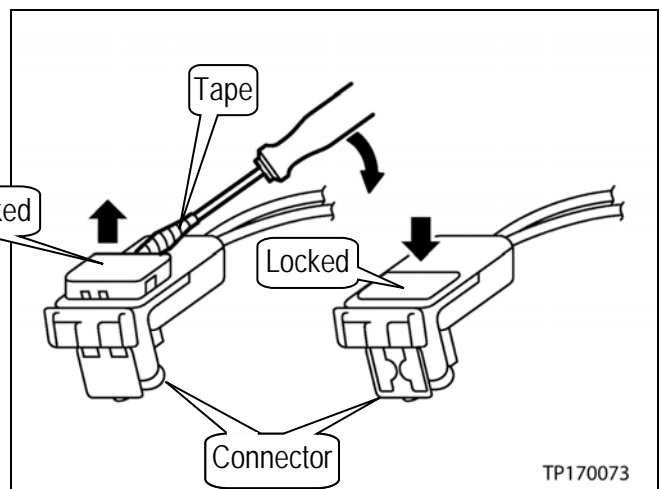

Figure 49
- When removing the passenger knee air bag module electrical connector, insert a suitable tool wrapped with tape, lift the lock, and then remove the connector (see Figure 49).